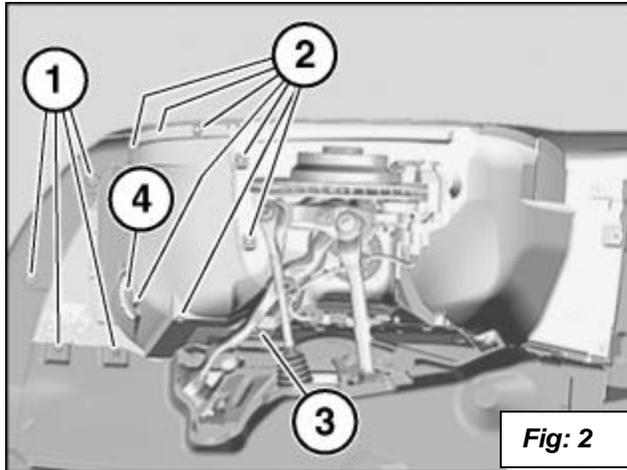

Fig: 2
4. Remove the front inner fender on the right side by removing the screws at location (1) and (2). Unscrew the nut location (3). Remove the Air Guide Disconnect the connector from the pressure box. See **figure 2**.